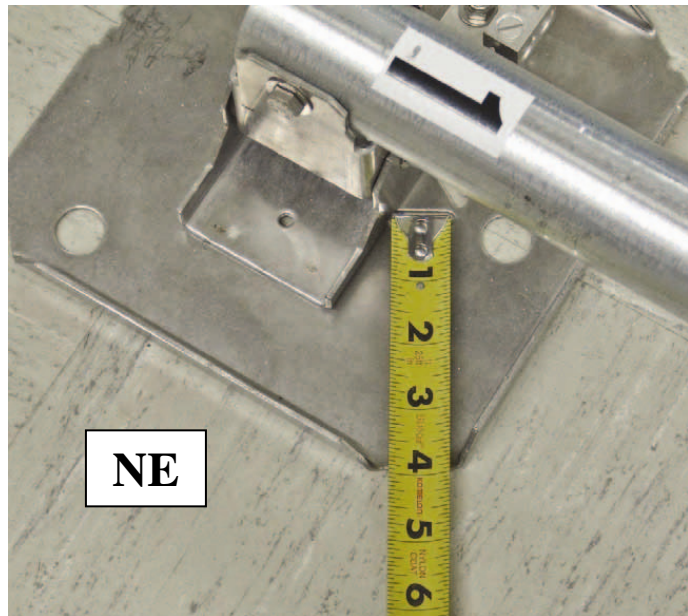

FIGURE 2.4-5. Tape Measure in Slot for North East Anchor
Step 5: Repeat process for the NE (Figure 2.4-5) and NW anchors.